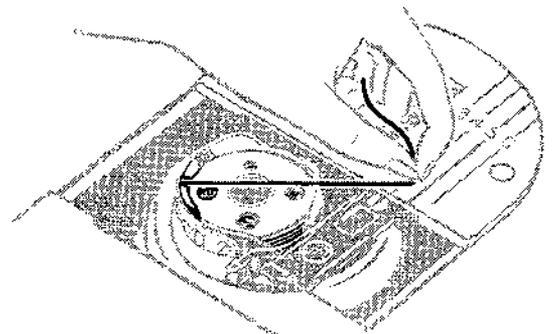

FIG. 33.
- Draw thread into notch at end of spring; pull about 3 inches of thread across bobbin as shown in Fig. 33.